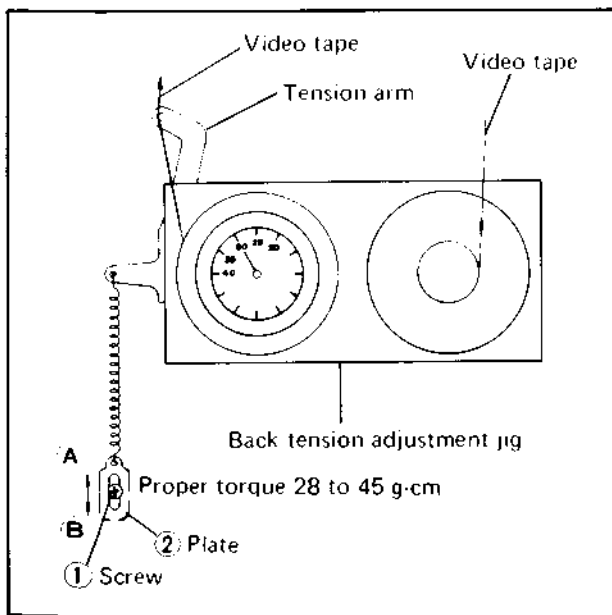

Fig. 4-20 Back tension adjustment
3. If measured back-tension is greater than 45 grams or less than 28 grams, loosen screw ① and adjust position of plate ② so that the back-tension becomes 35 grams; then tighten screw ① (see Fig. 4-20).